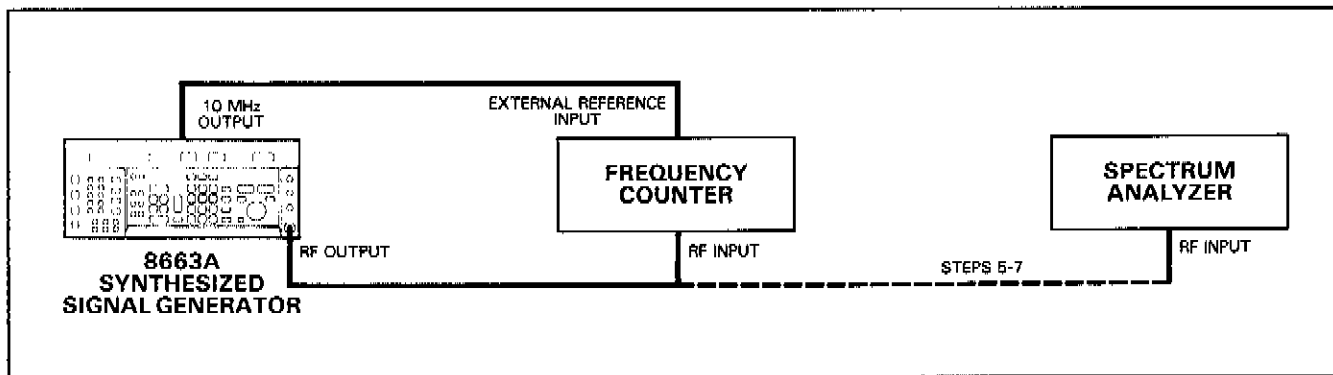

Figure 4-1. Operation Verification Amplitude and Frequency Test Setup
1. Connect the instruments as shown in Figure 4-1 and apply power.
- 14. Turn off the Signal Generator's Φ M modulation. Set the Generator's RF frequency to 640 MHz and the output amplitude to +10 dBm. Reconnect the spectrum analyzer as shown in Figure 4-1 and set the span to 20 kHz/division with a center frequency of 640 MHz. Center the signal on the spectrum analyzer's display and adjust the signal peak to the spectrum analyzer's amplitude reference level. Set the BPSK modulation frequency to 10 kHz with an increment value of 1 kHz. Increment the modulation frequency to 99 kHz using the Increment up key. Verify that the center frequency is greater than 20 dB down from the reference level.